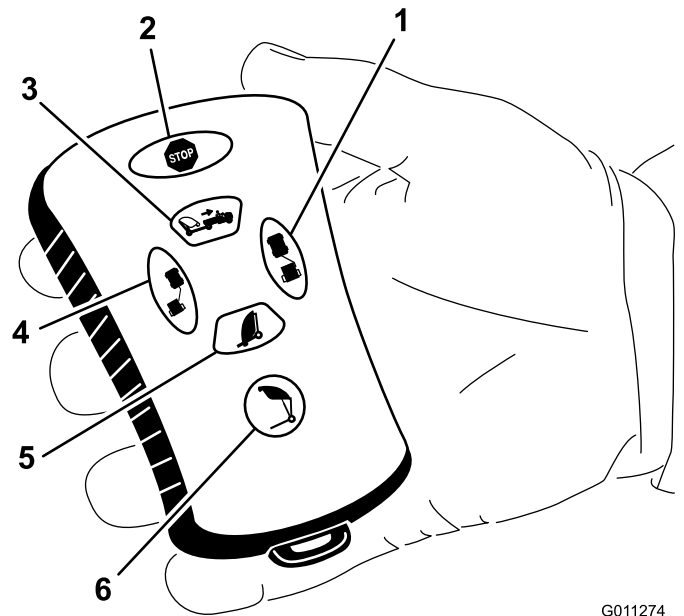

Figure 25
- Press the hopper dump button (Figure 25).
- Then press the off-set left button (Figure 25).
- Then press the off-set right button (Figure 25)
Then press and hold the hopper dump button (Figure 25).
- Press the sweeper down button to lower the hopper (Figure 25).